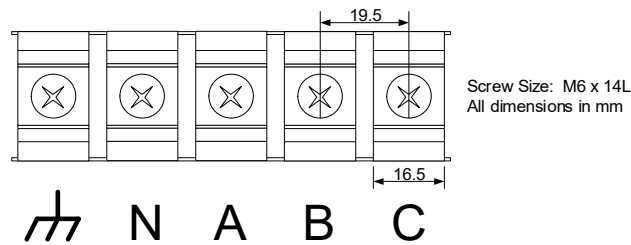

Figure 15 - AC Terminal Block Connections
5. Connect the ground cable as well as the three utility phase cables to the AC terminal block as shown in Figure 15.
6. The neutral connection (N) is provided for 4-wire grid-forming or standalone operation – this terminal should be left unconnected for grid-tie only applications. When the neutral connection is used, **REG 41829 – AC Connection Type** must be set to '1' to indicate 4-wire operation.